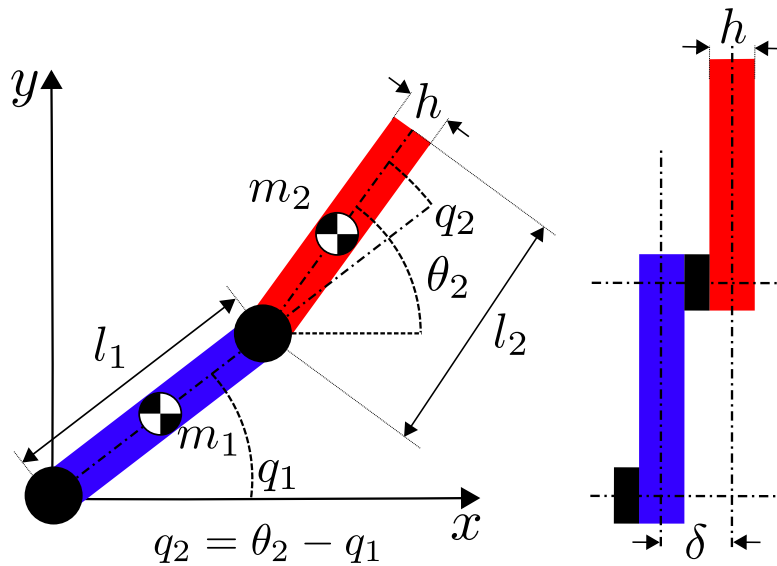

Figure 1: A planar manipulator with two links.
Consider the two-link planar manipulator shown in Fig. 1. Here the gravity vector points in the negative  $y$  direction
- T1 (1 P)** Get the MDH parameters of the two-link arm in Fig. 1.
Table 1: MDH-Parameters for the double pendulum in in Fig. 1